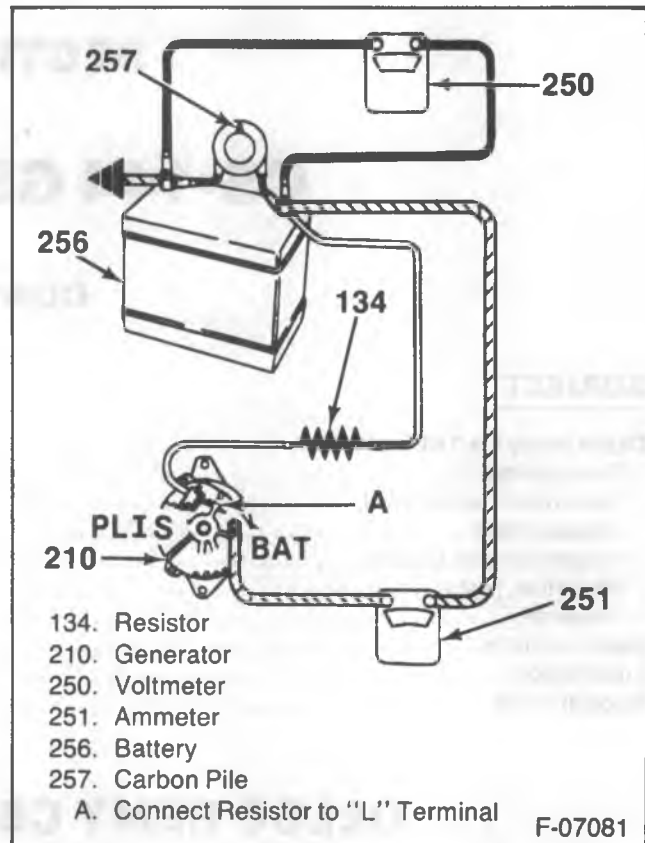

Figure 3—Connections for Generator Output Test
1. Put the generator in a test stand and make connections as shown in figure 3, except leave the carbon pile disconnected. The ground polarity of the generator and battery must be the same. The battery must be fully charged. Use a 30 to 500 ohm resistor between the battery and the "L" terminal.